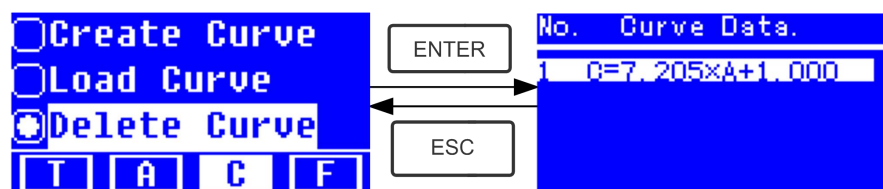

Fig. 4-15
- ★ Move the cursor on "Delete Curve" and press  to confirm. Then the system goes into the curve equation choosing interface. (Fig. 4-15)